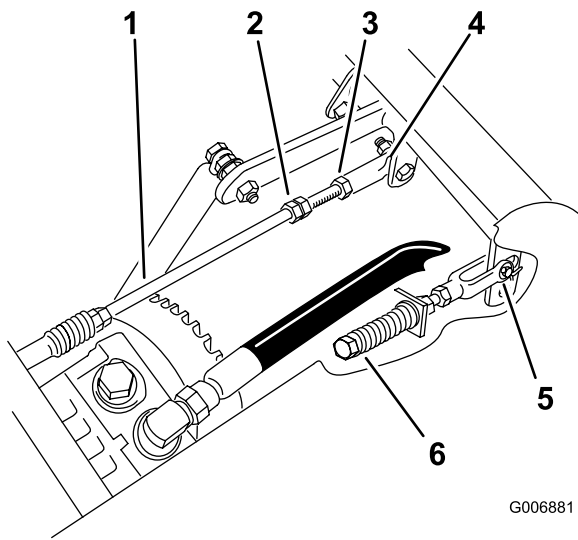

Figure 66
3. Adjust the pump rod length by rotating the double nuts on rod, in the appropriate direction, until the wheel is still or slightly creeping in reverse (Figure 66).
6. Tighten the locknut at the ball joint (Figure 66).